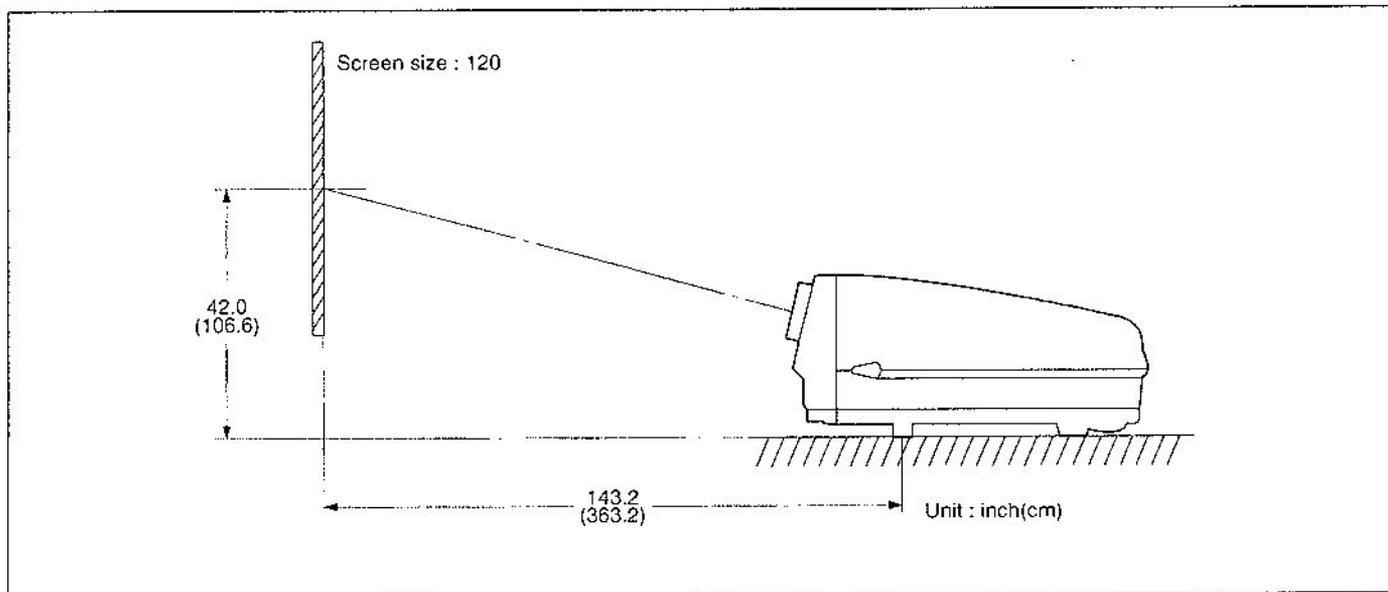

Fig. 2
**Note 3:** Adjustment should be done in the way of setting up on the floor and projection distance should be set as shown in Fig. 2.